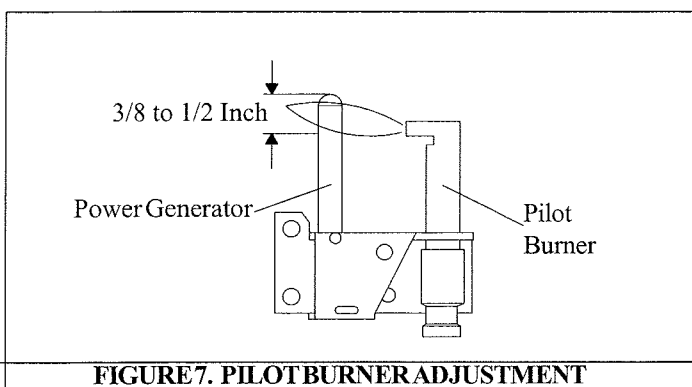

FIGURE 7. PILOT BURNER ADJUSTMENT
2. Adjust pilot screw to provide properly sized flame. See Figure 7.